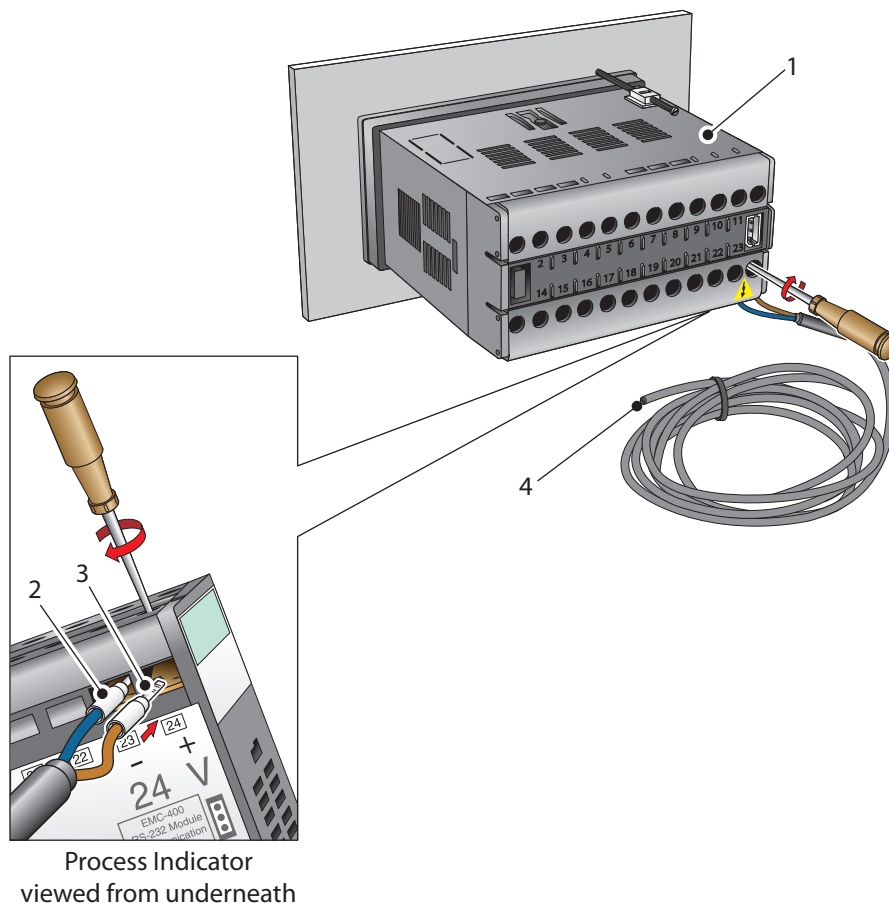

Figure 3.8 DC power supply connections
Connect the DC power supply to the process indicator (1) as shown in *Figure 3.8*. Refer also to Table 3.1 which gives a summary of all the connections to the rear panel of the process indicator.